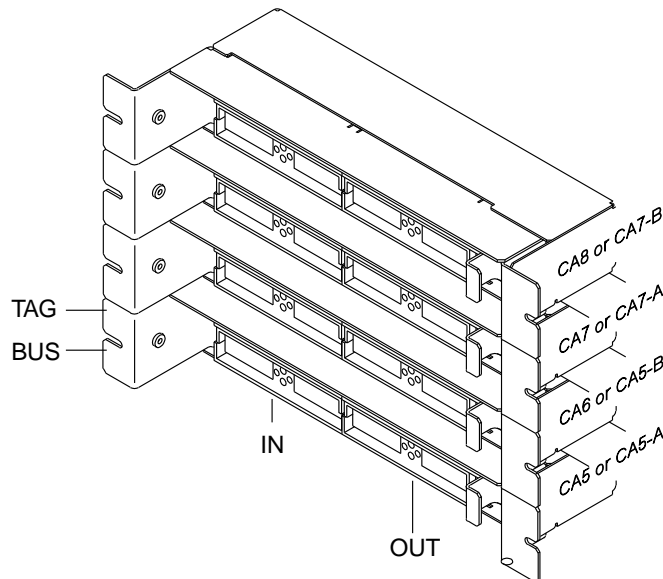

Figure 3-8. Channel Distribution on Tailgate. (Interfaces A and B are used when the TPS feature is present.)
Note: Up to four CAs are available. They are numbered from 5 to 8 (CAs 1-4 are not used, see Figure 3-8 on page 3-13 for CA numbering on the tailgate).
- b. Make sure that a BUS terminator (P/N 2282675) and a TAG terminator (P/N 2282676) are installed on the BUS OUT and TAG OUT connectors (light gray) of the first channel interface to be tested (see Figure 3-8 on page 3-13).
- d. When asked by the diagnostic, **install** the BUS and TAG wrap tools in the IN row (dark gray) of the CA interface being tested (see Figure 3-8). Then type **R** and press **SEND**.
Connect the CA interface cables for channels 5 through 8 to the 3745 tailgate in 01P (for channel positions, refer to Figure 3-8).